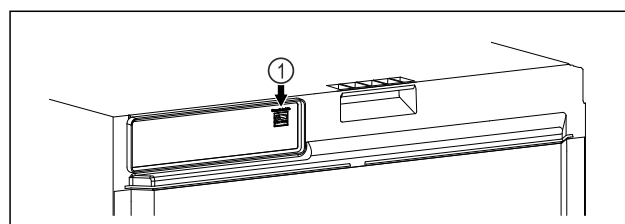

Fig. 108
- ☐ SmartModule Fig. 108 (1) has been inserted.